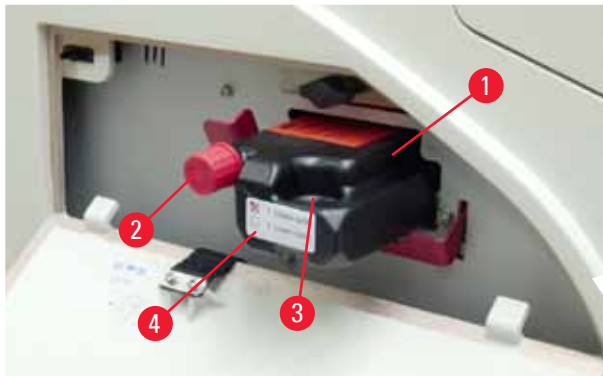

Fig. 54
- Remove the protective foil and insert the cartridge until it is about half way into the cartridge slot (→ "Fig. 54").